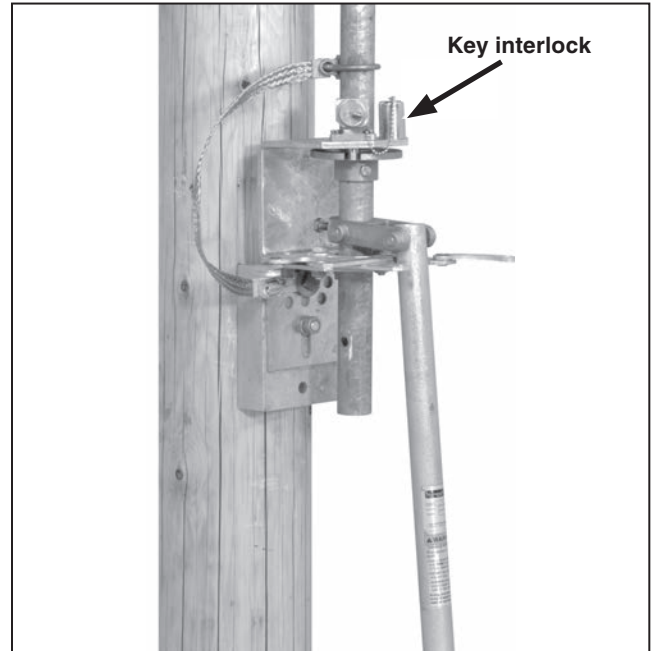

Figure 44. Disengage the key interlock bolt.
- (b) If the operating handle assembly is furnished with a key interlock, disengage the interlock bolt. See Figure 44.